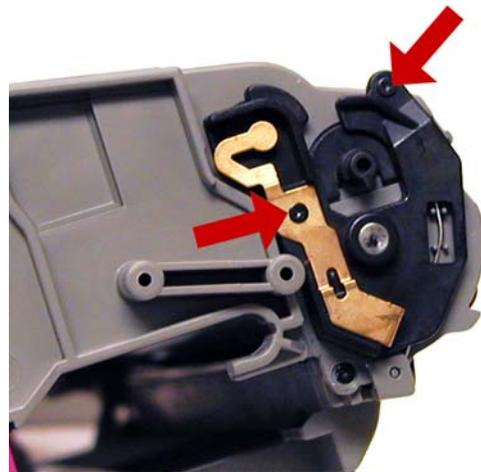

Figure 37
32) Install the black end cap and two screws. See **Figure 37**